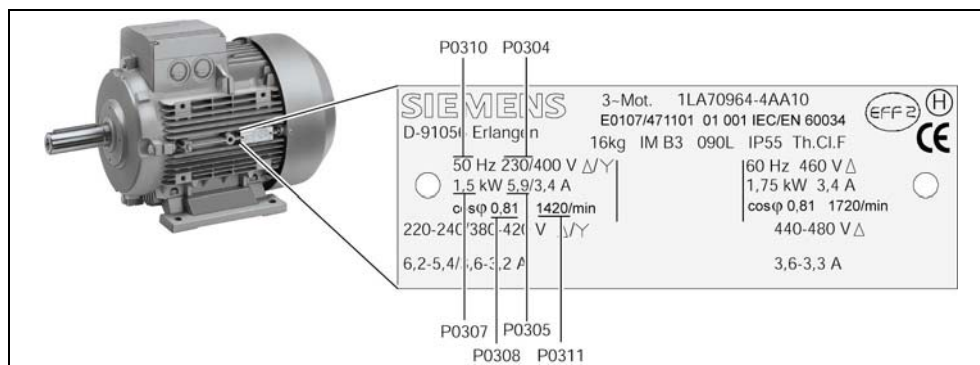

Figure 3-5 Typical Motor Rating Plate, Example
- The inverter is programmed at the factory for standard applications on Siemens four-pole standard motors that have the same power rating as the inverters. When using other motors it is necessary to enter the specifications from the motor's rating plate. See Figure 3-5 for details on how to read motor data.